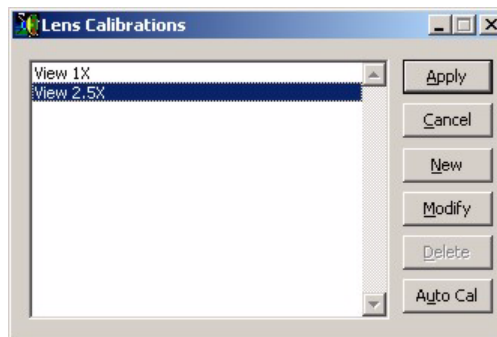

Figure B-1 Lens Calibrations Window
4. Select **Setup / Lens Calibration** in the VMS main menu to display the Lens Calibrations window (see Figure B-1).
3. Install the lens you want to use with the laser and apply its calibration values from the Lens Calibrations window (see Figure B-1 on page 266).